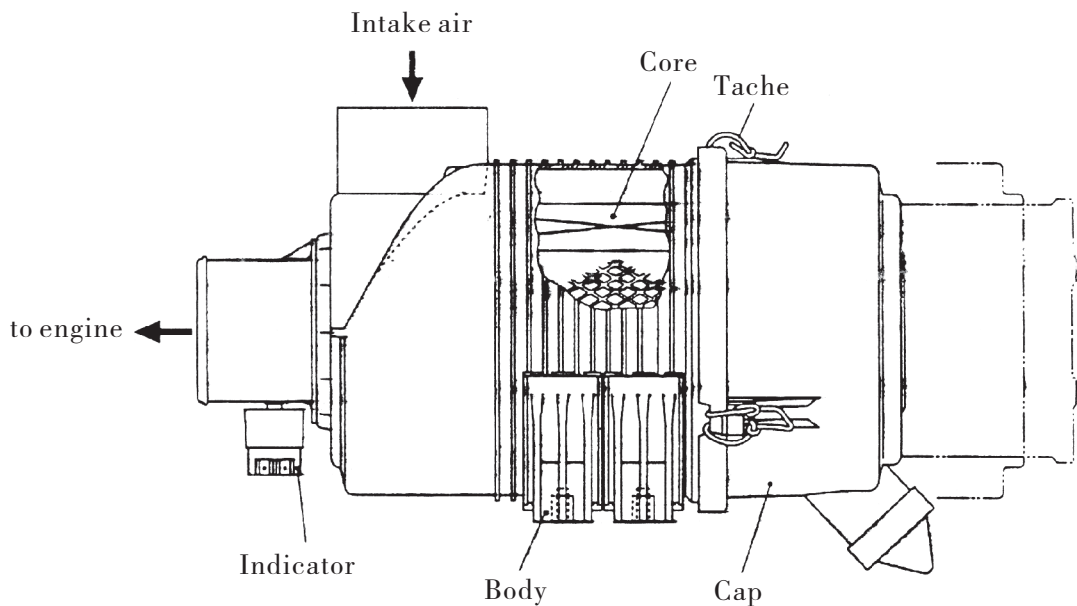

Fig.1.5 Air cleaner
1.3.1 For air filter, please See Fig. 1.5.